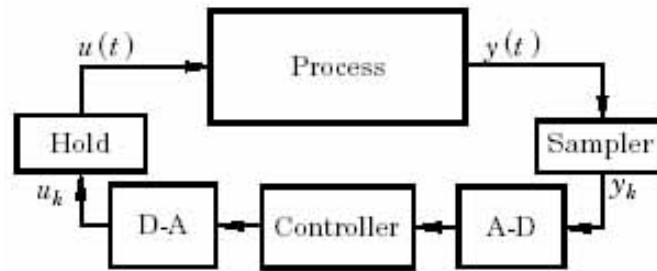

Figure 3: Model of digital control system.
The controller you just designed will be implemented digitally. This system can be described as in the Figure 3. In this part of the homework, the A/D and D/A converters can be neglected, and will be covered in the last part of the homework. In Simulink, the sampling block is included at the input
21. Open the Simulink model with the discrete designed controller. Add your own quantization block (with the same quantization level) according to Figure 3 and ensure that you quantize $y(t)$ and $u(t)$ and not Δy and Δu . This corresponds to an A/D and a D/A converter. Set the saturation for both blocks to 0 for the lower and 100 for the upper limit. Simulate the system for different values of the quantization level. For which quantization level will the control performance start to degrade? How many bits does this correspond to? [5p]